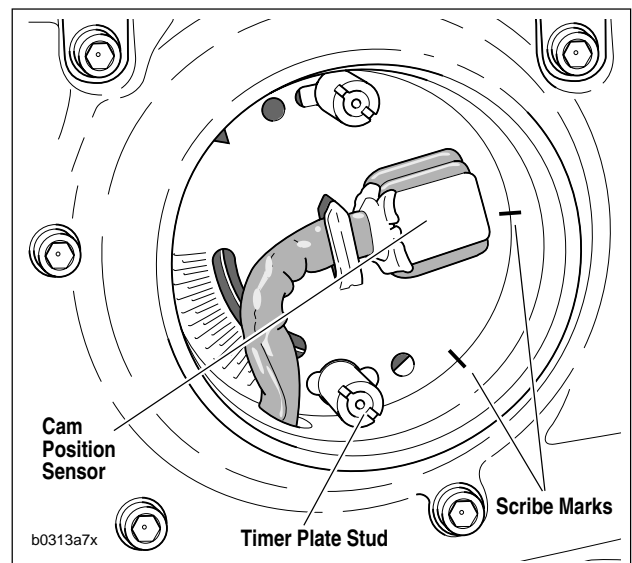

Figure 4-70. Marking Ignition Timing
See Figure 4-70. The cam position sensor and trigger rotor are located in the gearcase cover on the right side of the vehicle. The rotor is mounted on the camshaft and operates at one-half crankshaft speed. The sensor wiring is connected to the ignition module wiring harness.
7. See Figure 4-70. Remove connector terminal pins. See Appendix B.
9. See Figure 4-70. To obtain approximate ignition timing during installation, scribe alignment marks across cam position sensor in two places.
10. See Figure 4-70. Remove timer plate studs. Carefully remove cam position sensor. Remove bolt and trigger rotor.